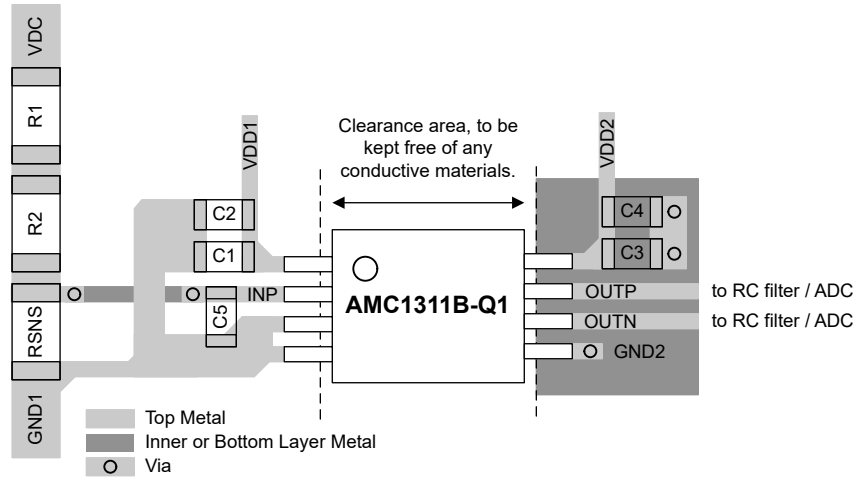

Figure 10-1. Recommended Layout of the AMC1311-Q1
Figure 10-1 shows a layout recommendation with the critical placement of the decoupling capacitors (as close as possible to the AMC1311-Q1 supply pins) and placement of the other components required by the device. For best performance, place the sense resistor close to the device input pin (IN).